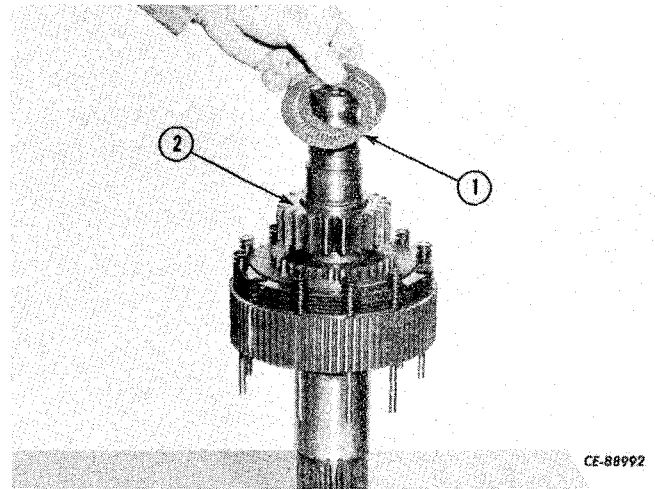

Figure 4-128
Position the upper thrust bearing assembly (1, Fig. 4-128) on the gear (2).